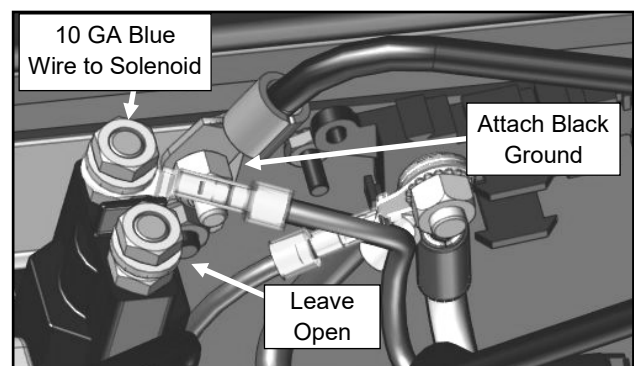

Fig. 5.5 (Harness Connection)
- 5.5 Per figure 5.5, connect the blue wire to the same post as the existing blue wire from the converter that was installed in step 3.9. Note: One post on the top of the solenoid will not be used.